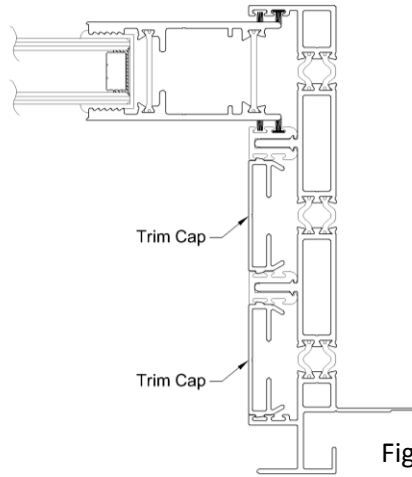

Figure 14a
23. Install the longest trim cap piece into the exterior and center jamb track shown in figure 14a.